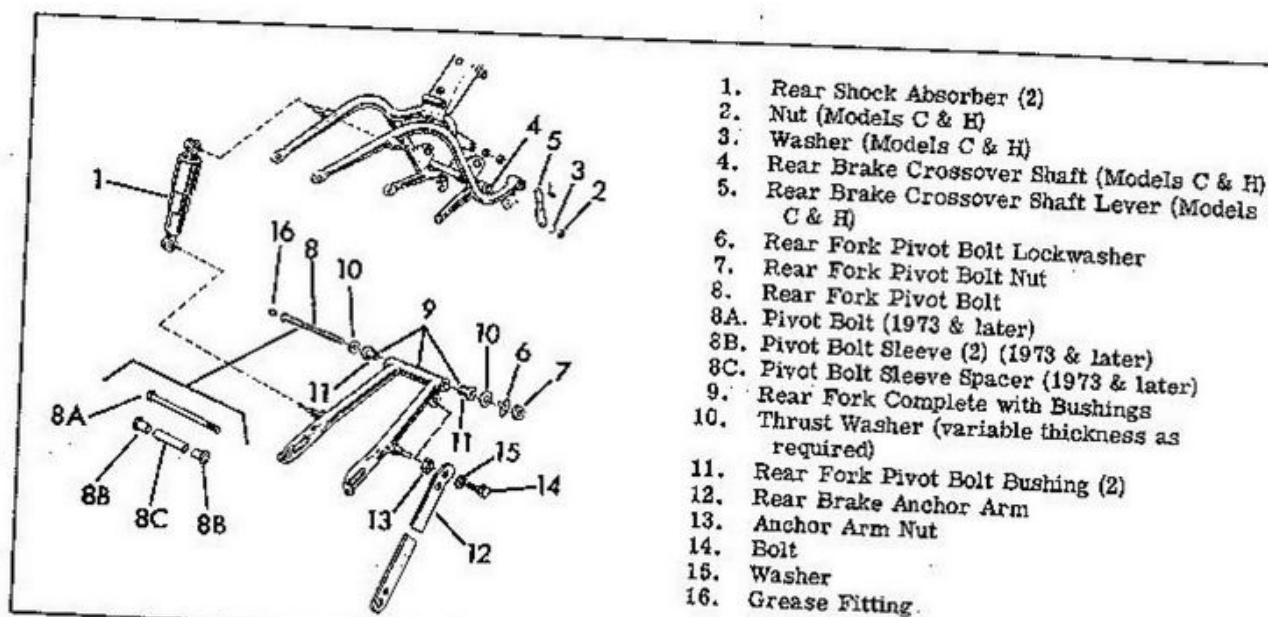

Figure 2F-66. Rear Fork - Exploded View
Rear fork bushings (11) can be pressed or drifted out of fork by inserting rod through opposite sides of fork, engaging rod end in each bushing and pressing or drifting bushing out. Press in replacement bushings and ream to size. See Figures 2F-67 and 2F-67A.